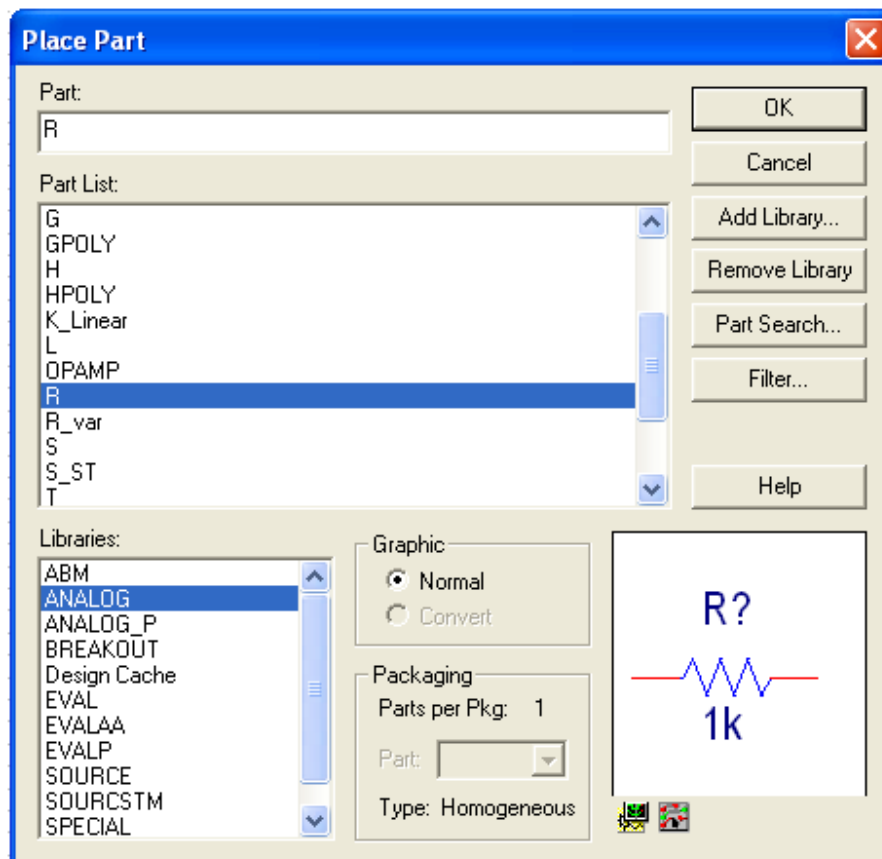

Figure 2 – Place Part Dialog
- a. Next we must draw the desired schematic. To get parts, go to Place -> Part...(see Figure 2). There is also shortcut icon on the right side of the window.